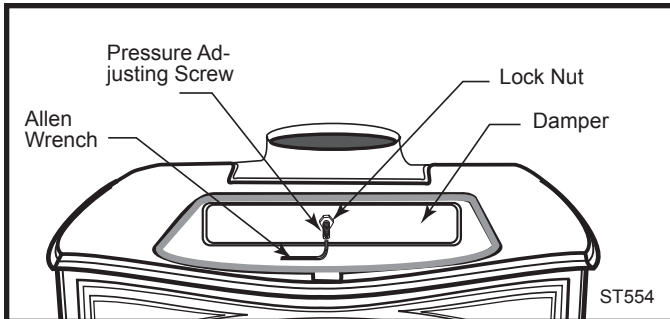

Fig. 43 Adjust the damper with the Allen wrench.
1. Remove the griddle. Loosen the lock nut at the center of the damper. (Fig. 43)